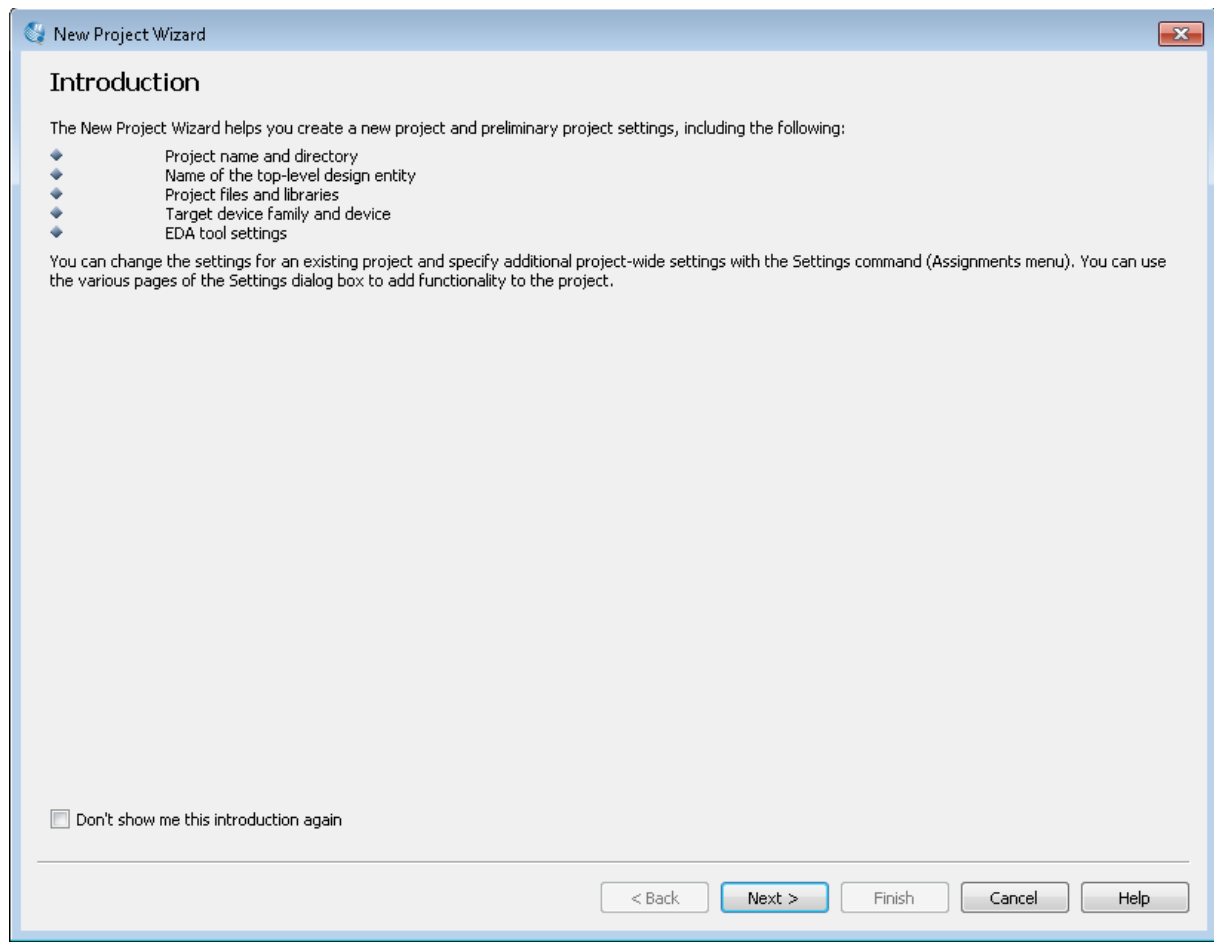

Figure 2-1 New Project Wizard introduction
1. In the Quartus II software, select File > New Project Wizard. The Introduction page opens. See **Figure 2-1**.